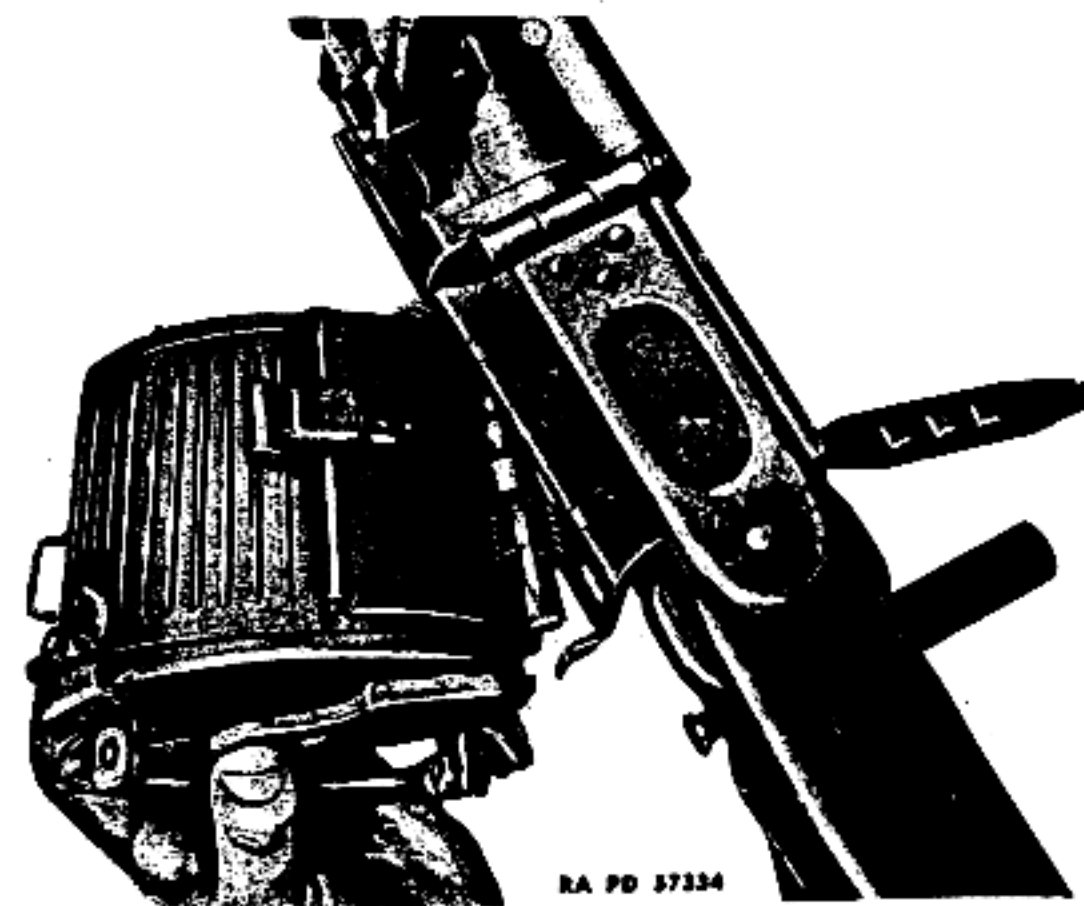

Figure 22 - Mounting Belt Drum Magazine
c. Loading the Machine Gun With a 50-round Belt Drum Magazine. See that the bolt is fully home and the safety set at FIRE (move safety forward to uncover letter "F," (fig. 17)). Take a fully loaded belt drum magazine (③ fig. 13) and insert the leading tab into the feed opening on the left side of the gun. Attach the magazine to the front hook on the feed block (fig. 22), press the latch on the magazine, and secure it to the rear hook on the feed block. Pull the